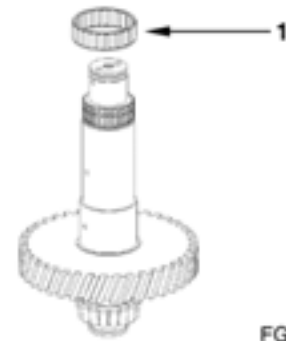

Figure 229
3. Mount needle cage 60 x 68 x 20 (1, Figure 229) onto the shaft and oil it.